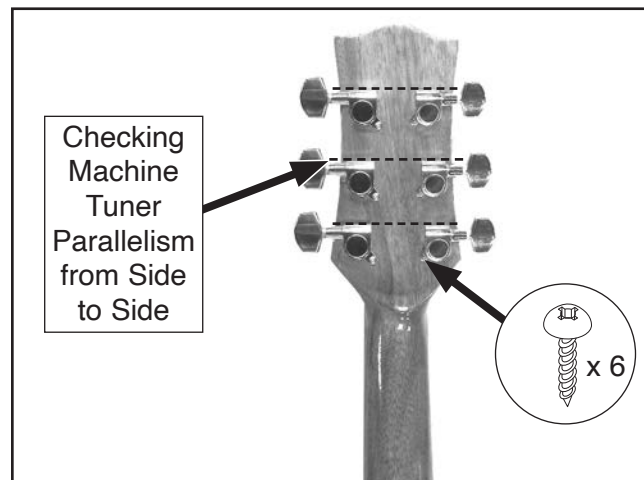

Figure 28. Tuning machine components
4. Set a straightedge across the top of each pair of machine tuners to ensure they are parallel with each other from side to side (see **Figure 28**).
5. Secure each tuning machine to headstock with (1) tuning machine screw, as shown in **Figure 28**.